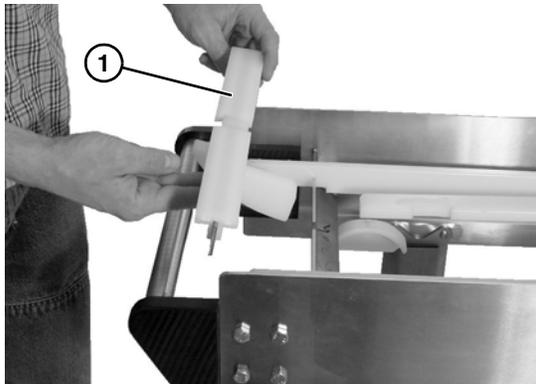

Figure 49
2. Remove the nose bar idler bar with wear strips and idler shoe attached (**Figure 49, item 1**).